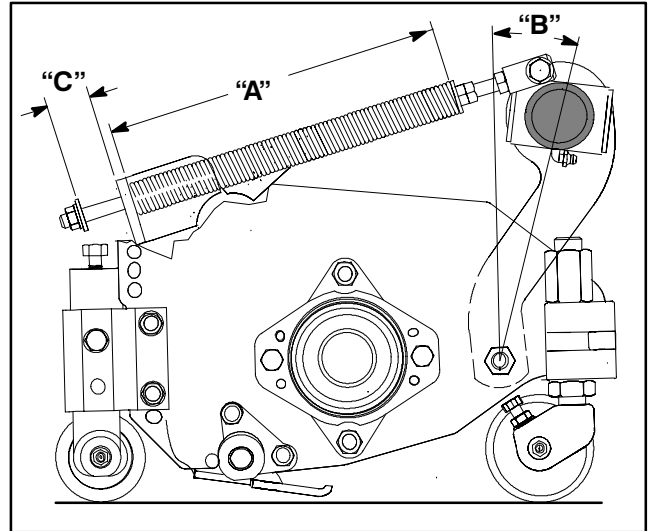

Figure 6
The Turf Compensation Spring (Fig. 6), connecting carrier frame to cutting unit, controls the amount of fore-aft rotation available, as well as the amount of ground clearance in transport and turn around.
1. Tighten lock nut on rear of spring rod until the gap (C) between rear of spring bracket and front of washer is 1" (25 mm) (Fig. 6).
2. Tighten hex nuts on front end of spring rod until the compressed length (A) of spring is 8" (203 mm) (Fig. 6).
and gap (C) between rear of spring bracket and front of washer to 1-1/2" (38 mm) (Fig. 6).